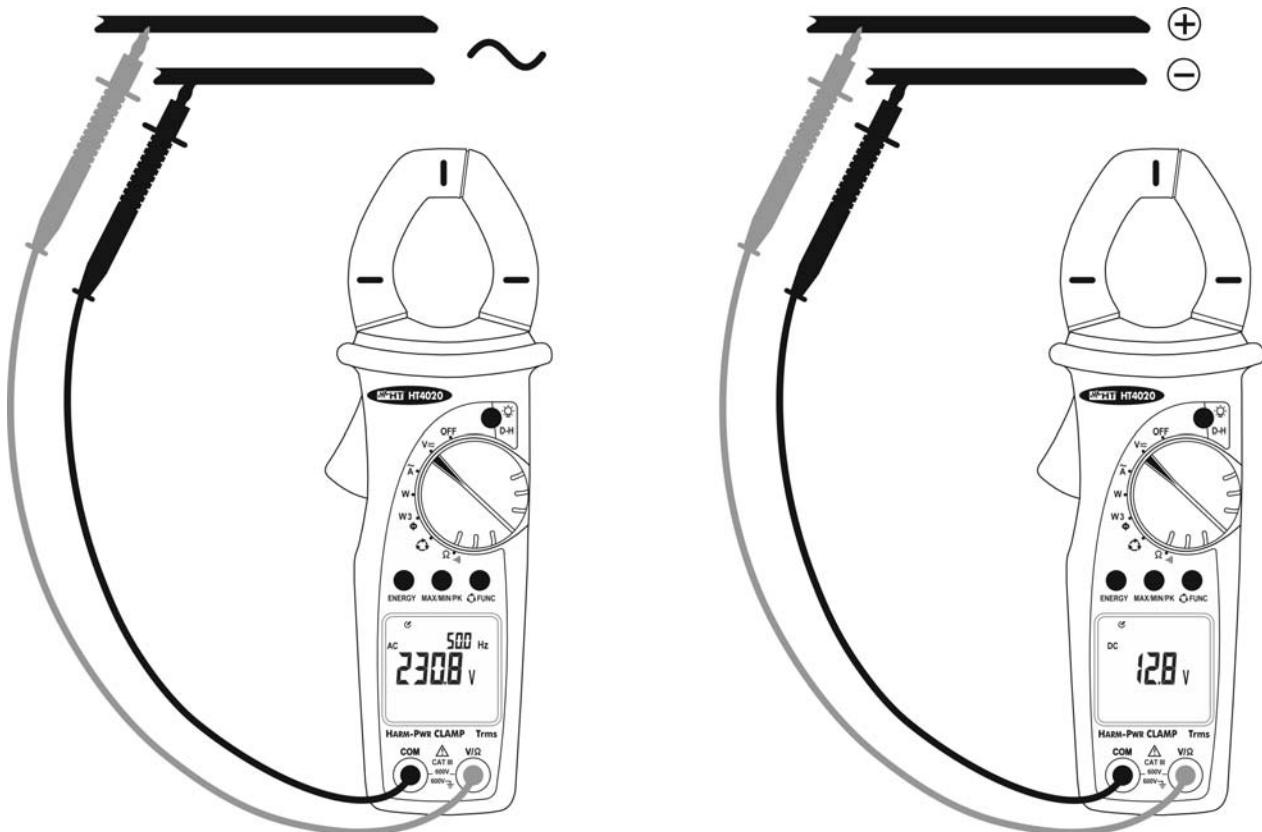

Fig. 4: Use of instrument for DC/AC voltage measurement
3. Connect the test leads to the circuit under test (see Fig. 4). The instrument automatically selects “AC” or “DC”. For AC voltage measurements the frequency value is shown on the secondary display.